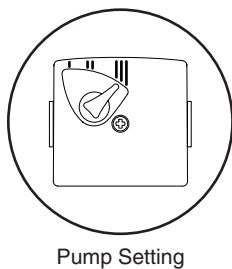

Fig. 57
3. A standard Grundfos replacement head can now be fitted. A Grundfos 15-50 head is suitable for the Combi 80e. The Combi 105e requires a 15-60 head. Connect the wiring to the new head. **The pump speed must be set to 3 (Fig. 57).**